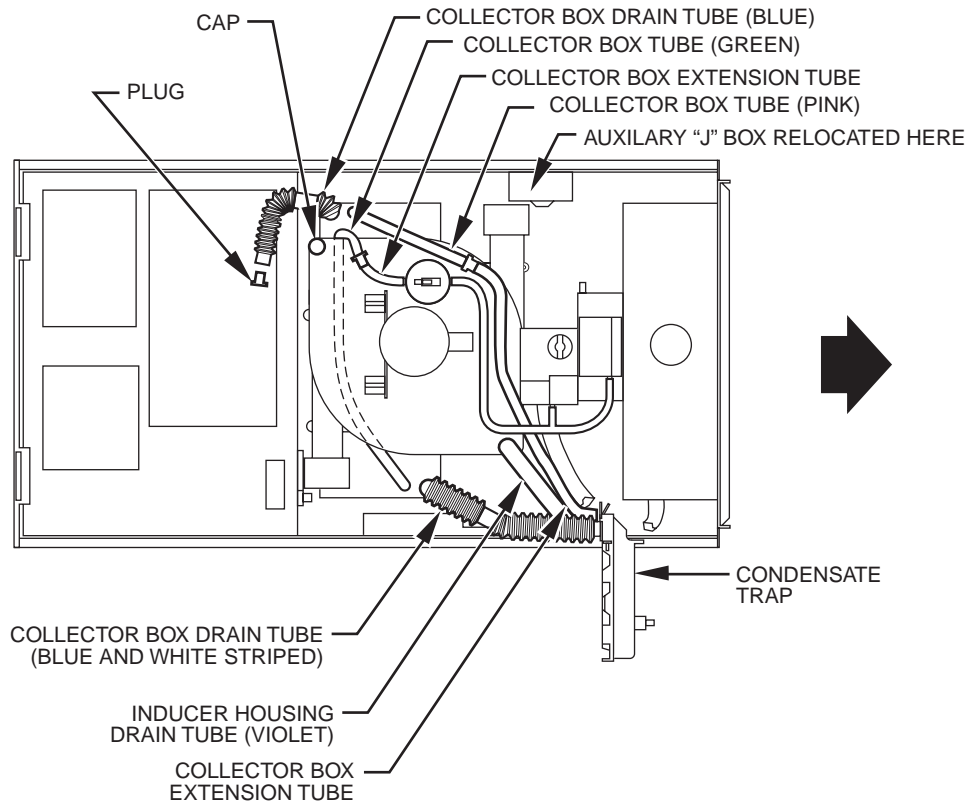

Fig. 12—Horizontal Right Tube Configuration
NOTE: The auxiliary junction box (J-Box) MUST be relocated to opposite side of furnace casing. (See Fig. 12.) See Electrical Connection section for J-Box relocation.
NOTE: See Fig. 12 or tube routing label on main furnace door to check for proper connections.
1. Position furnace on its back. Locate and drill a 5/16-in. diameter hole in each bottom corner of furnace. (See Fig. 12.) Holes in bottom closure panel may be used as guide locations.